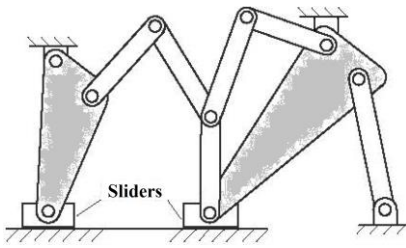

Fig. Q1A
- 1A. Determine the degrees of freedom for the mechanism shown in Fig. Q1A.